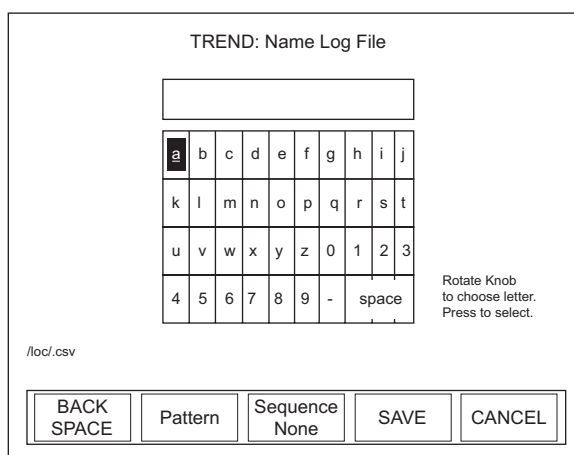

Figure 40. TREND: Name Log File
1. Press the CREATE FILE soft key on the TREND screen to display the TREND: Name Log File screen (Figure 40):